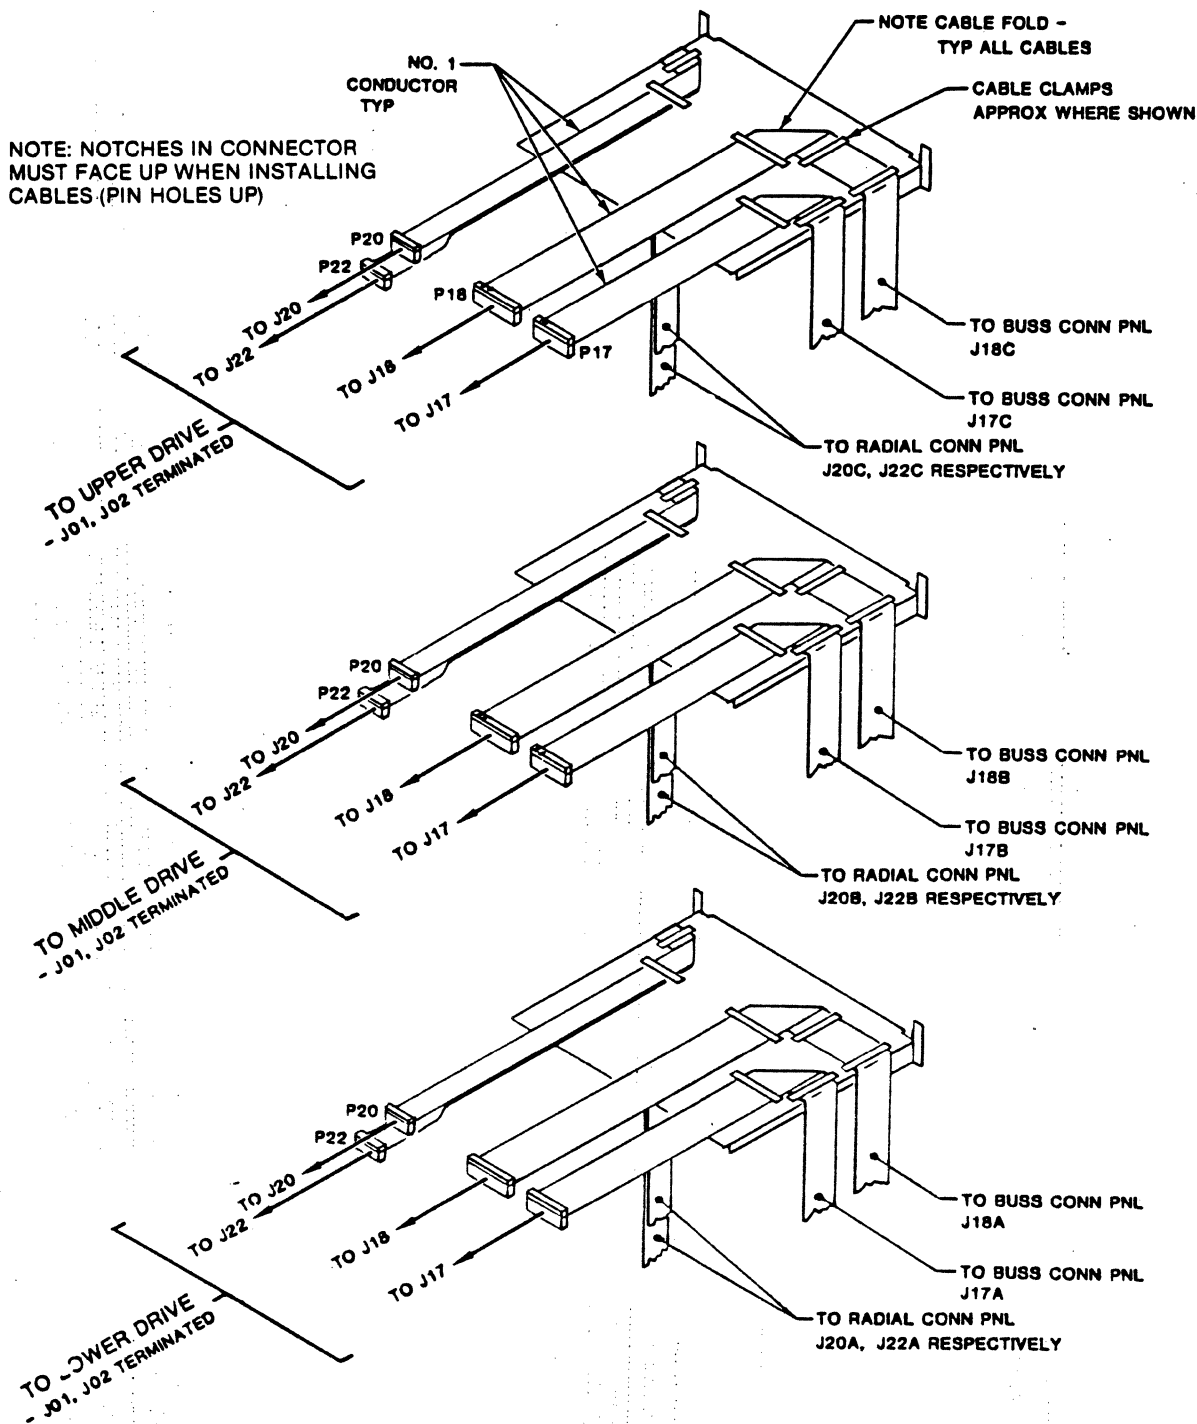
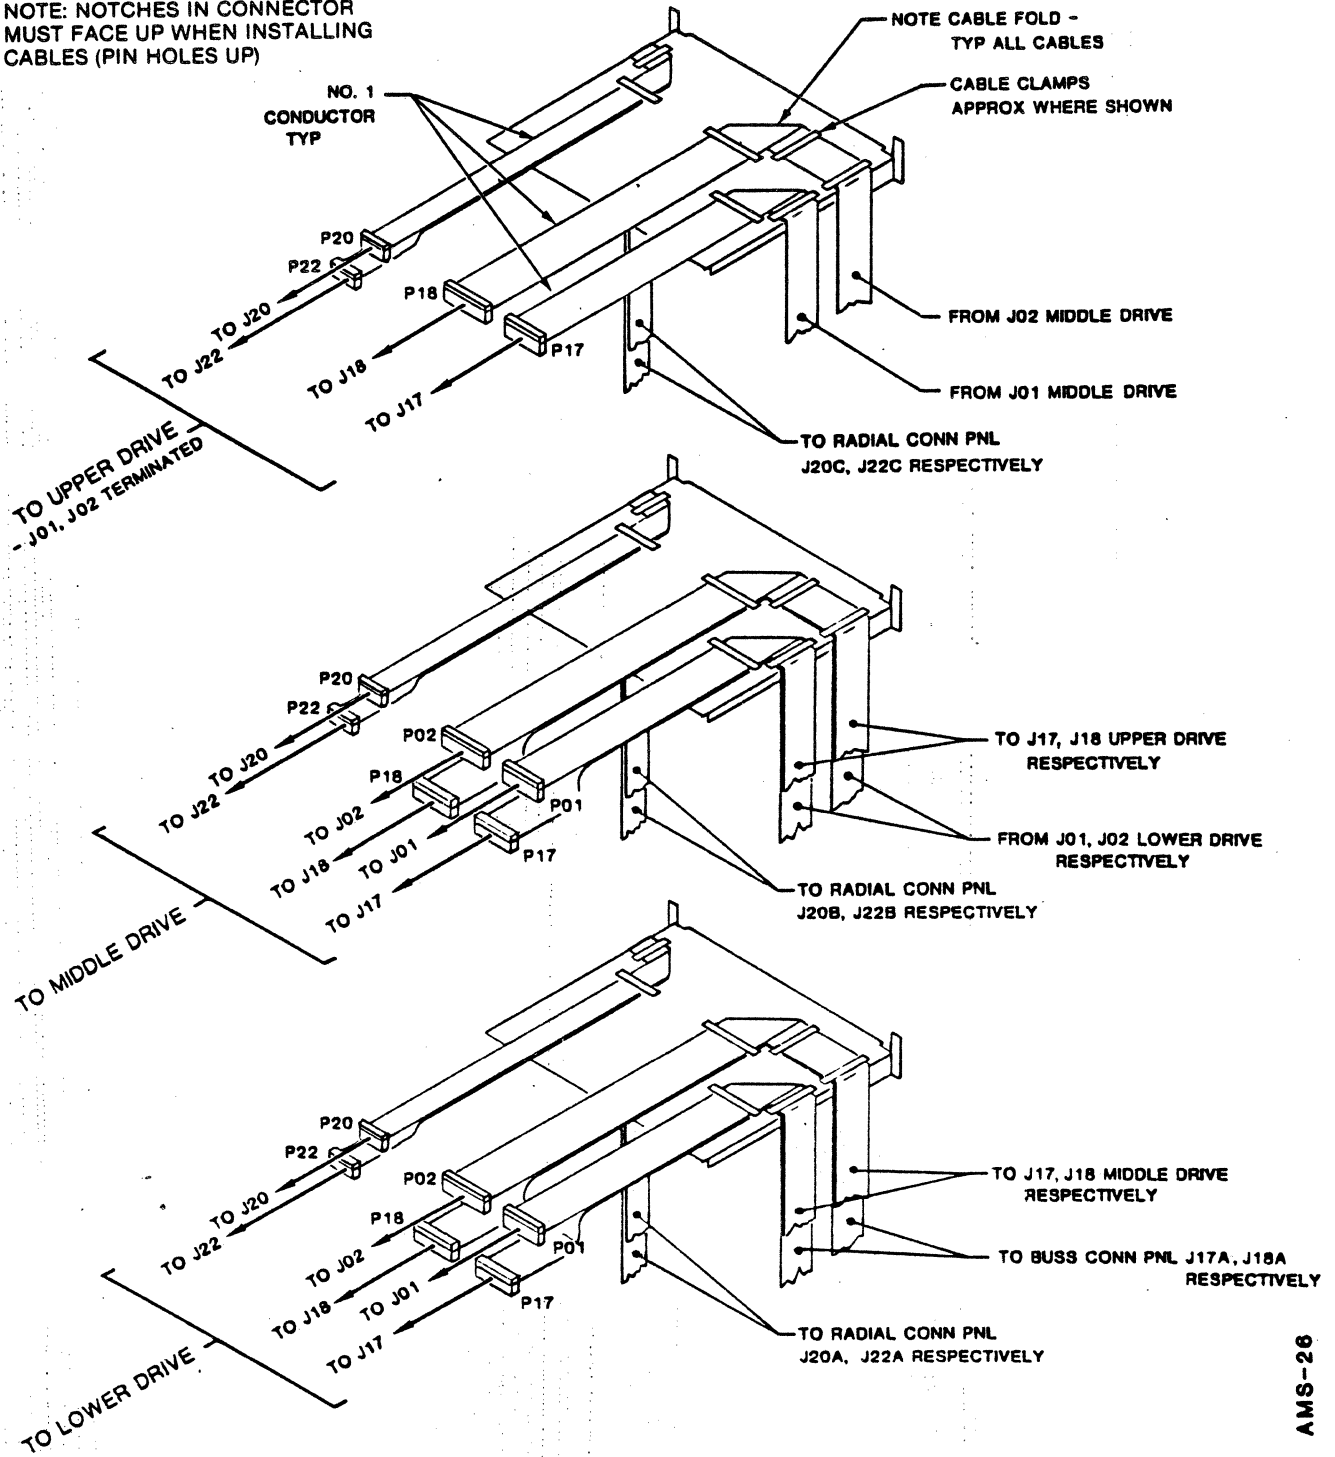

Figure 7-16. Star Cable System
Figure 7-17. Daisy Chain Cable System
10. If cables are not installed in the cabinet, but were purchased separately, route the cables onto the cabinet support tray as shown in Figure 7-16 or Figure 7-17. Install cable clamps as shown.
Fold cables as shown in Figures 7-16 or 7-17 to provide a neat cable configuration between the cable support tray, clamps and connector panels.